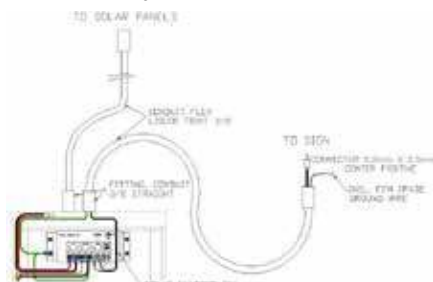

Figure 3-3. Wiring Solar Charger in Battery Box
8. Connect the solar panel wires to the solar charger in the battery box. See Figure 3-3.
- b. Connect the solar panel red wire to the positive (+) terminal of the solar charger “SOLAR +” terminal (4).
- c. Connect the solar panel black wire to the solar charger “SOLAR -” terminal (3).
Connect ECS wires to solar charger in battery box. See Figure 3-3.